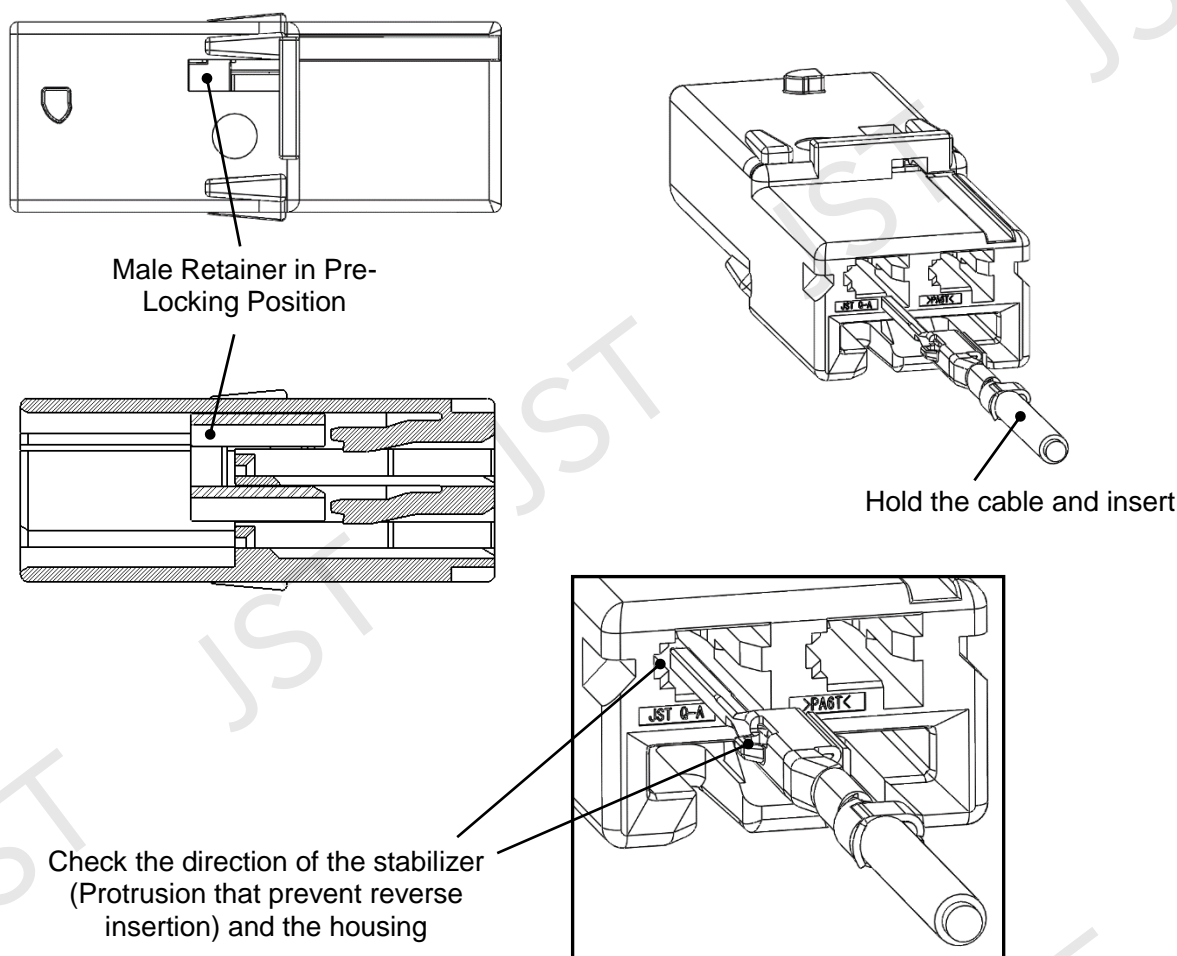

Fig. 16
- ① Check that the retainer is in the pre-locking position. (Fig.16)
- ② Check that the direction of the male terminal is proper before the insertion. (Fig.16)
③ Hold the wire part of the male terminal and insert the male terminal without prying straightly into the housing until stopping with a click. (Fig.16 and 17) At that time, pay attention not to bend the wire.
④ Pull the wire softly to check that the male terminals are fully inserted.